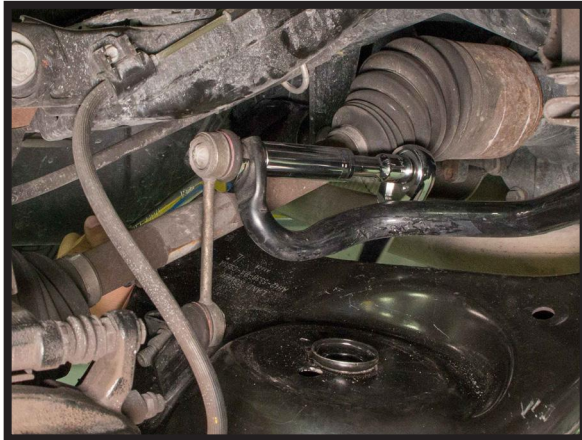

FIGURE 39
12. REMOVE THE SWAY BAR END LINK. (FIGURES 39, 40)